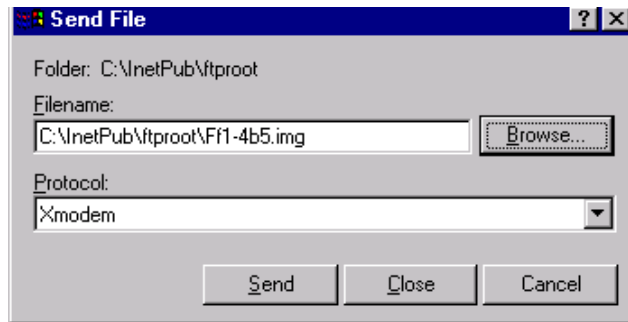

Figure 5-61 HyperTerminal Send File Window
Step 8. Click **Transfer** in the upper row menu of the HyperTerminal window to display the **Send File** window of Figure 5-61.